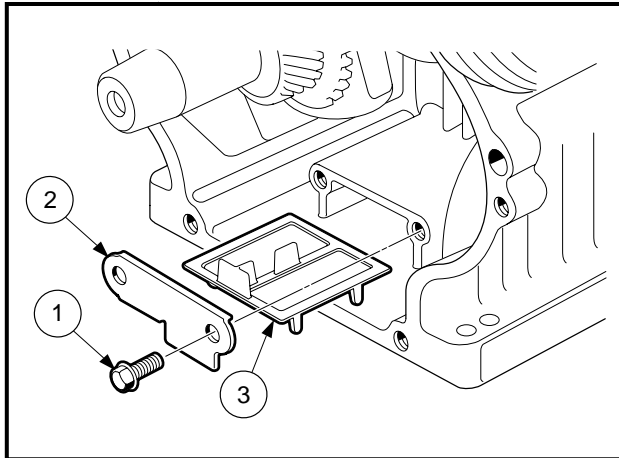

Figure 13-89 Oil Screen Removal
1. Remove the two bolts (1) to take out the oil screen plate (2) and the oil screen (3) (**Figure 13-89, Page 13-40**).